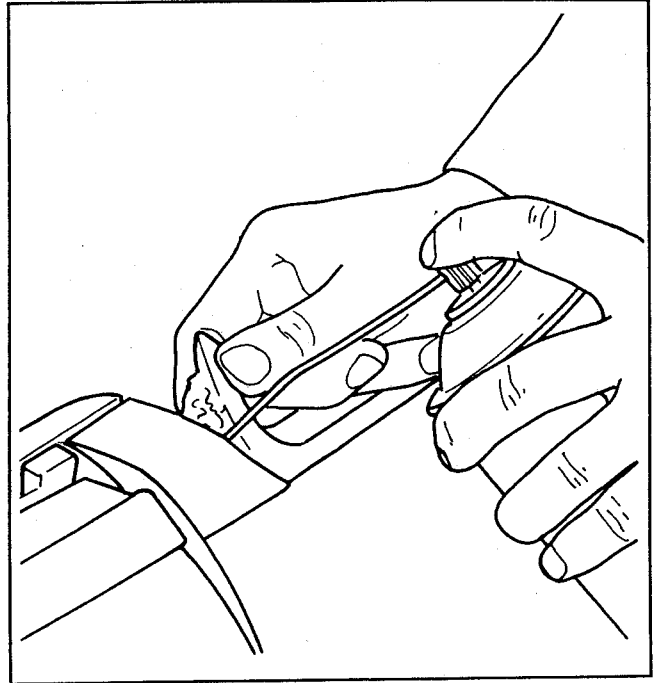

Figure 57. Remove Leaking Weatherstrip
1. If the weatherstrip is deformed, use 3M Release Agent #051135 08971, or equivalent, on the weatherstrip adhesive. Remove the weatherstrip (Fig. 57).